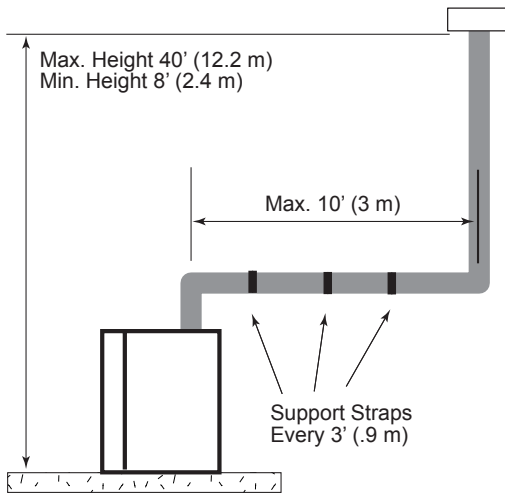

Figure 33 - Support Straps for Horizontal Runs
- Vertical installations up to 40' (12 m) in height. Up to a 10' (3 m) horizontal vent run can be installed within the vent system using a maximum of two 90° elbows. *Figure 33*
- Two sets of 45° elbow offsets may be used within the vertical sections. From 0 to a maximum of 8' (2.5 m) of vent pipe can be used between elbows. *Figure 33*